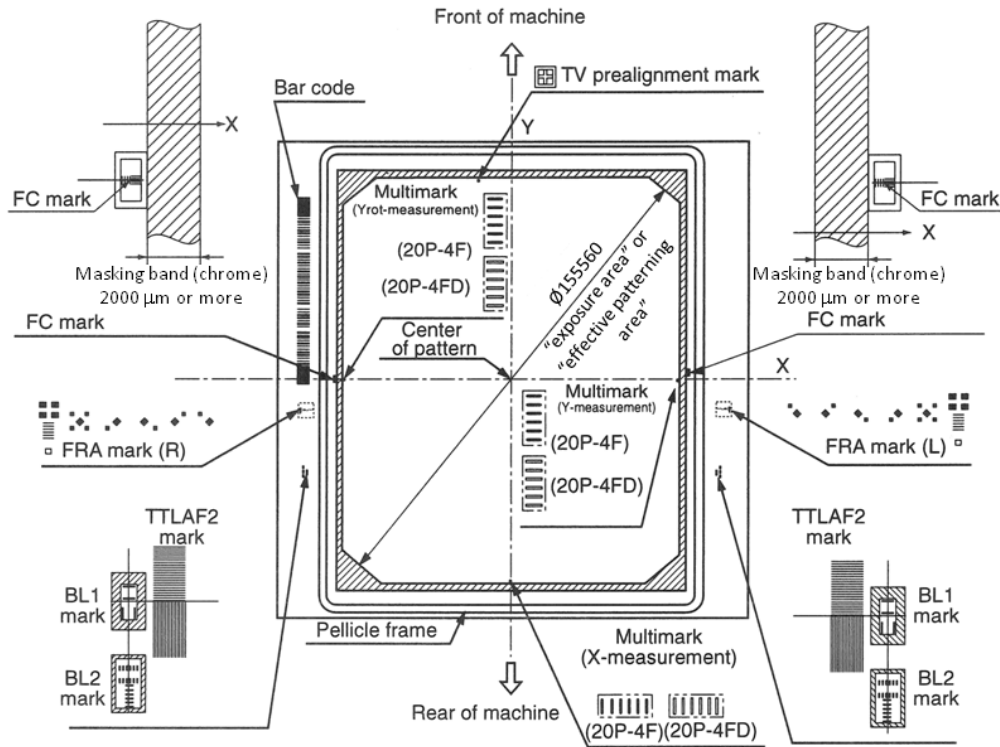

Figure 3: Reticle focus check and alignment marks (dimensions in µm)
The reticle has to be equipped with several focus check and alignment marks as displayed in Fig. 3. The most of them will be placed by the reticle manufacturer (4). Other marks are depending on the individual design so they have to be included into the reticle design. Table 1 comprises marks supplied by the manufacturer (4).
The bar code as shown in Fig. 3 doesn't have to be included into the design because the stepper is not equipped with a bar code reader. Nevertheless, the reticle manufacture will include the bar code anyway.
Please note: The stepper is not equipped B and C scopes used for "phase detection alignment". Thus the marks used for phase detection alignment (G8P-4) do not need to be added to the reticle design. These marks are also not included in Fig. 3. However, an update of the stepper to enable phase detection alignment is possible.